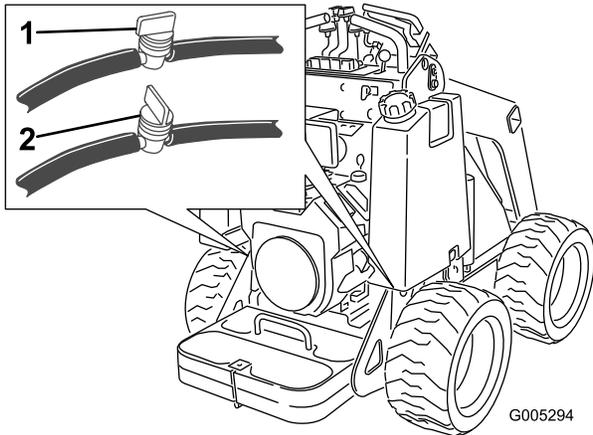

Figure 27
2. Shut off the fuel valve on the bottom of each fuel tank (Figure 27).
- Shut off the fuel valve in the hose near the bottom of the fuel tanks (Figure 27).
- Open the fuel valves in the hoses near the bottom of the fuel tanks as illustrated in Figure 27.